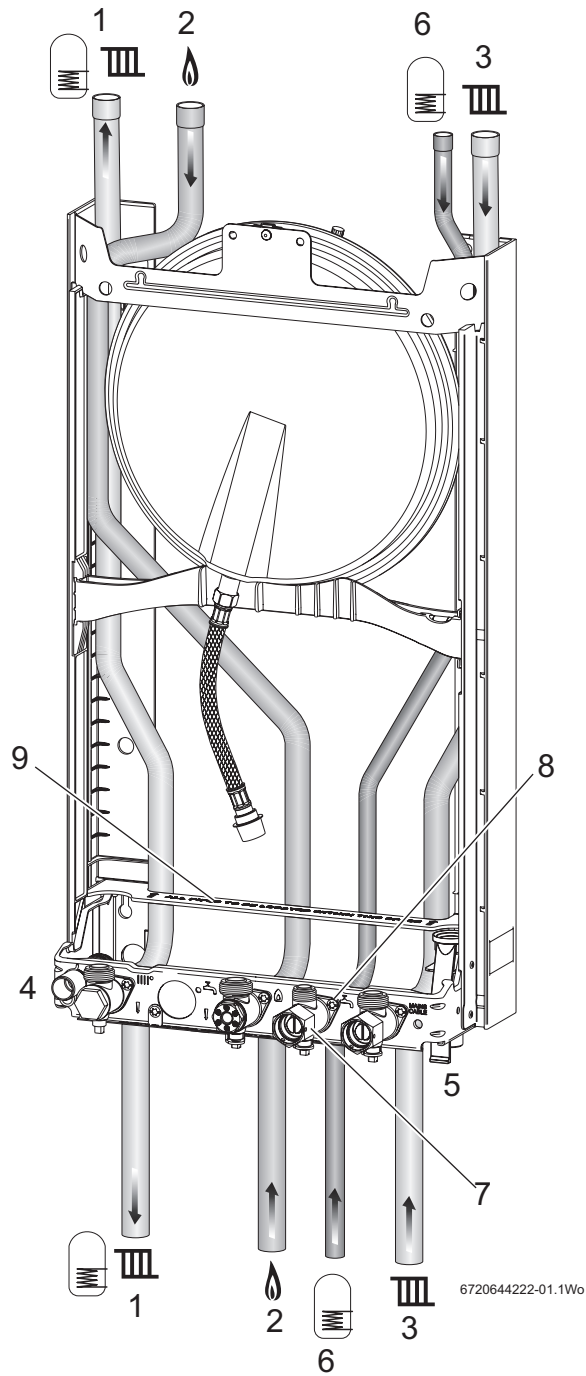

Fig. 2 Plumbing manifold with wall frame
- ▶ Refer to figure 2
- ▶ The service valve (7) from the Optional Diverter Valve Kit must be fitted and secured to the wall mounting frame with two screws (8) supplied, before the wall mounting frame is fitted to the wall.